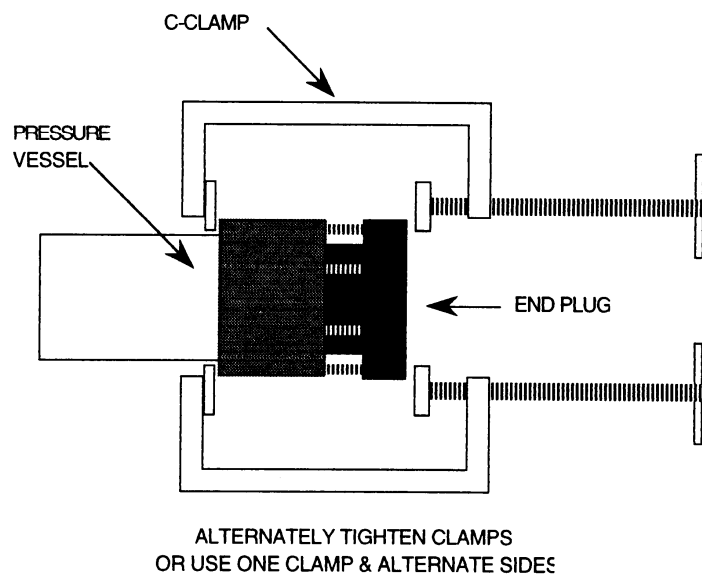

Figure 6.2 - End Plug Installation Aid
- 2) Install the product water and end plug o-rings onto the end plugs. Lubricate the o-rings and entrances to the pressure vessel with glycerin or silicone lubricant. Locate the discharge end of pressure vessel. Install the end plug into the discharge end making sure to align the end plug holes and the mounting holes on the pressure vessel while paying particular attention to the reference mark (see Section 6.3.1, Step 2). Apply pressure to the end plug until screws can be threaded into the collars. If the end plug will not slide into the pressure vessel sufficiently, see Figure 6.2 for an installation aid. Install and hand tighten the screws.
- 4) Install the remaining end plug making sure to align the end plug holes with the mounting holes on the pressure vessel while paying particular attention to the reference mark (see Section 6.3.1, Step 2). Apply moderate pressure to the end plug until the screws can be threaded into the collar. If the end plug will not slide into the pressure vessel sufficiently, see Figure 6.2 for installation aid. Install and hand tighten the capscrews.